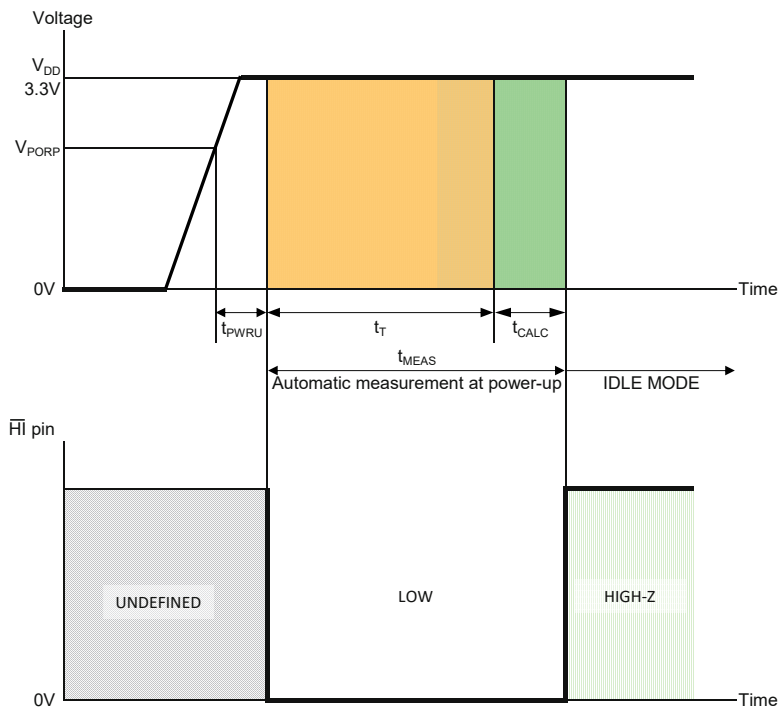

Figure 5: Sensor behaviour at power-up
- b. During power up until the start-up measurement and calculation is finished (please refer to Figure 5 in chapter 5.1.)